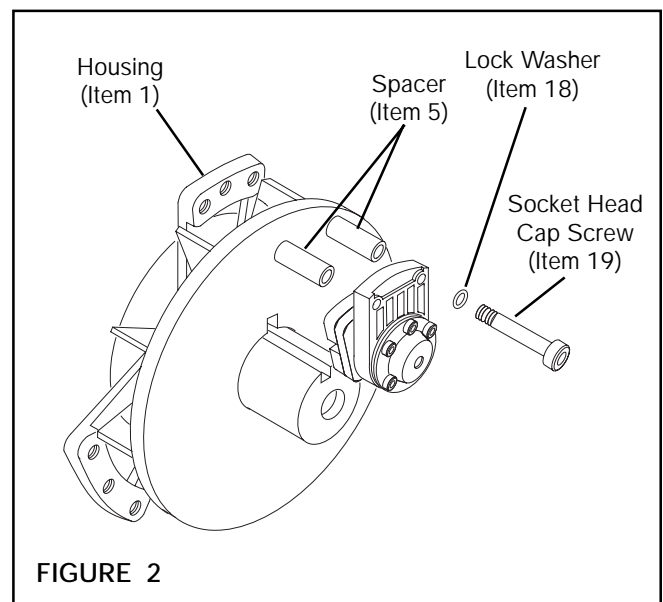

FIGURE 2
5. Using the Spacers (Item 5), Lock Washers (Item 18), and Socket Head Cap Screws (Item 19), secure Caliper Assemblies to Housing (Item 1) (See Figure 2).